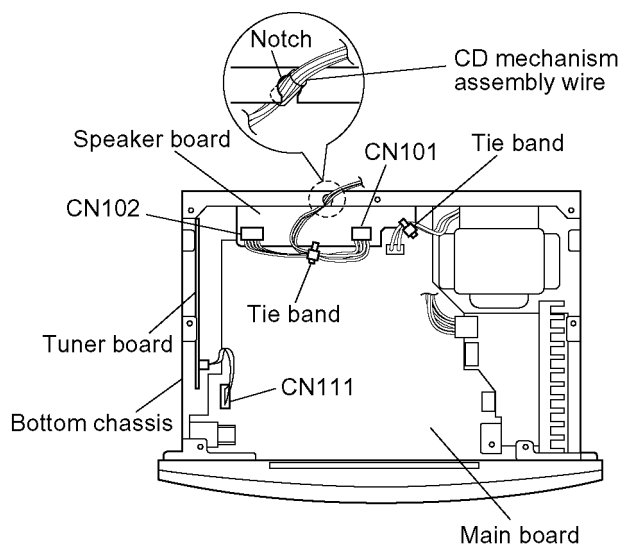

Fig.2-8
(See Figs. 2-8 and 2-9.)
- Insert the CD mechanism assembly wire into the notch on the bottom chassis. (See Fig. 2-8.)